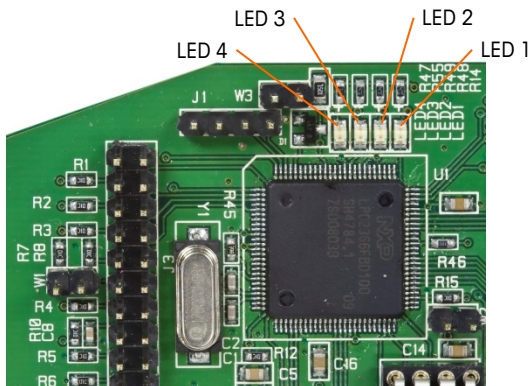

Figure 2-96: Analog Output LEDs
Selecting the inputs as active enables connection of switches or other simple devices to trigger an input. No voltage is supplied by the external simple device. An example of how to wire to the active inputs is shown in Figure 2-96. Note that pin 10, the +5VDC connection, can carry no more than 200 mA current.
- The +5VDC shown in Figure 2-96 is referenced to an internal ground inside the discrete I/O card. Measuring from pin 10 to the IND780 chassis ground will **not** show +5VDC. The +5VDC output is used internally, and has no function except for digital inputs as shown in Figure 2-96.